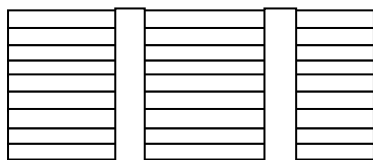

Figure 1
5.4. Wrap 13 trays(one empty tray on top) with poly tape as Figure 1 and then place it on the air cap in shipping box.
将13个tray(一个空Tray)的产品(240 pcs)用胶带沿长度方向两缠绕约3圈(Figure 1)，然后置于外箱内气泡垫上。